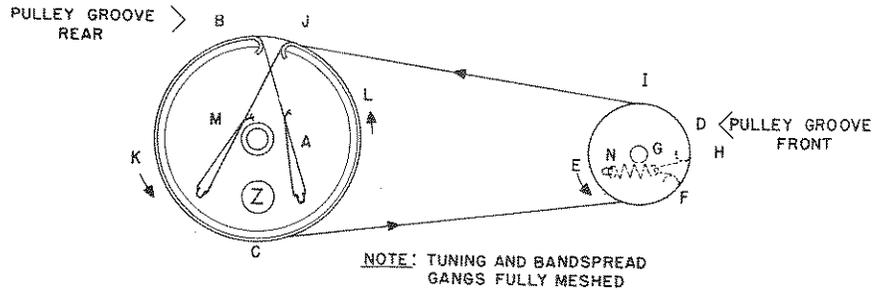

Fig. 2. Main Tuning Gang Drive Stringing Diagram
- 1. MAIN TUNING GANG DRIVE** - Refer to Fig. 2. Tie one end of a 32 inch length of dial cord to the tie point at A on pulley (Z). Follow the stringing procedure A thru F. At G, place the cord thru one end of the tension spring, leaving the other end of the spring disconnected. Then proceed from H thru M. At M, take up the slack in the cord and tie it securely to the tie point. As the final step, stretch the spring and connect it to the tie point at N.